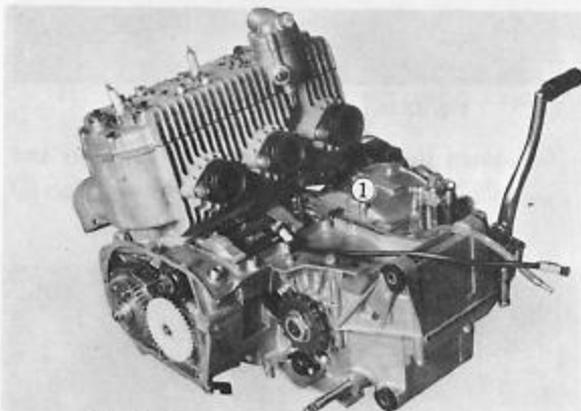

Fig. 3-14 Taking off by-pass hose union
- Remove the starting motor cover ①, and the water pump by-pass hose union (Fig.3-14), and slide the starting motor backwards to remove it.